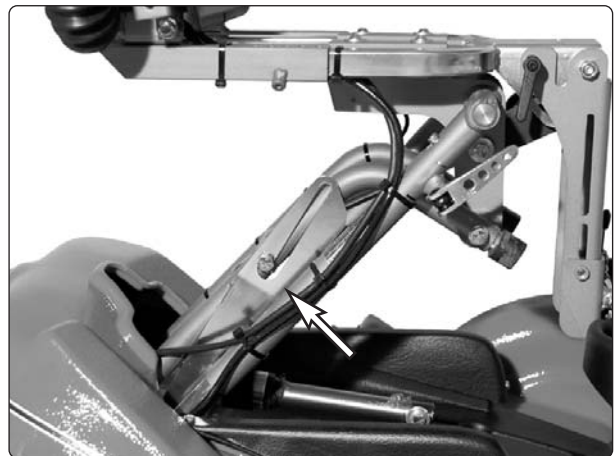

Fig. 7. Seat lift safety stop.
4. Lift the seat manually to its highest position, lock the seat in the upper position using the safety stop. See fig. 7.